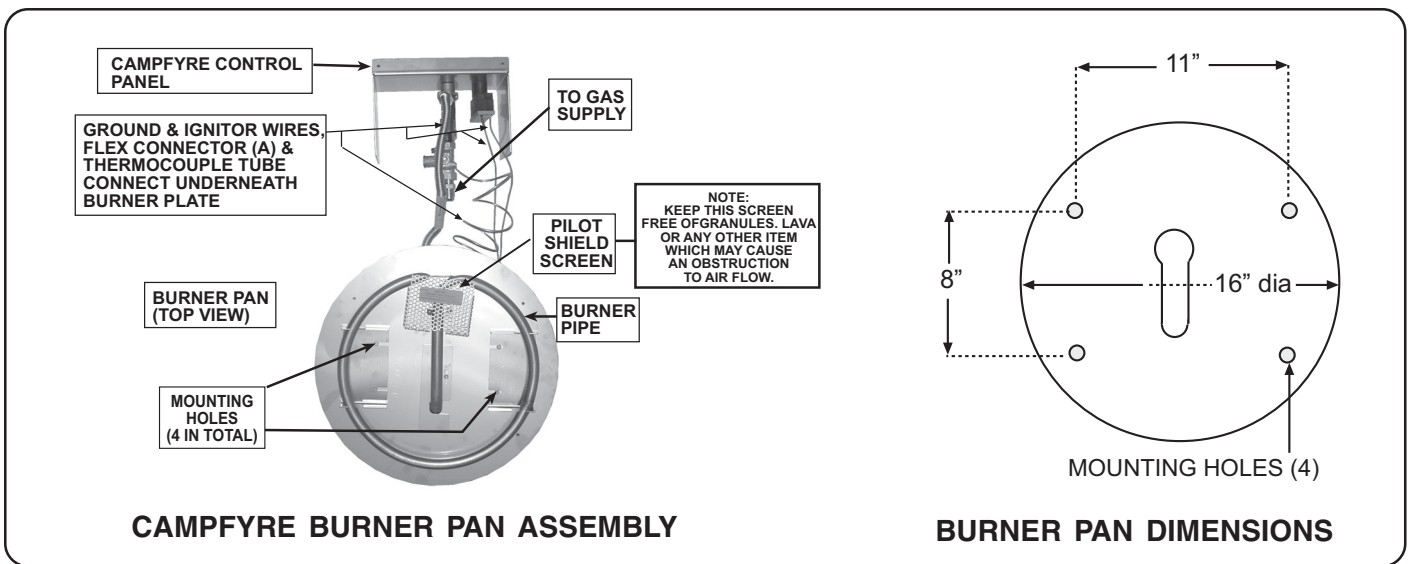

Figure D5.
3. Remove the 4 screws attaching the burner pan to your fire ring or enclosure. (see page 4, Figure D5 & D6).